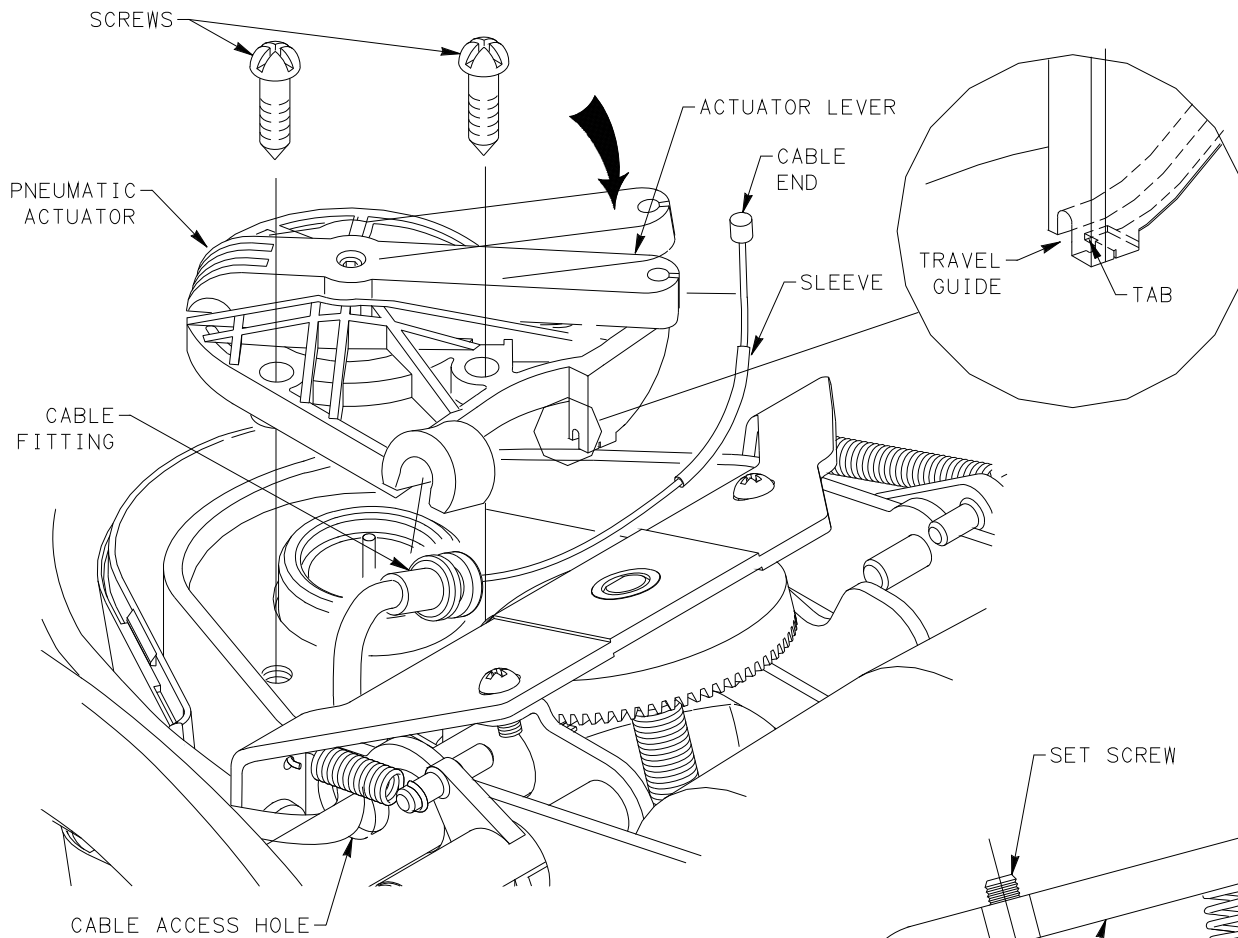

FIGURE 5
4. USING SCREWDRIVER, REMOVE AND SAVE (2) SCREWS SECURING PNEUMATIC ACTUATOR TO TILT. SEE FIGURE 5.
5. DEPRESS LEVER ON PNEUMATIC ACTUATOR AND DISENGAGE CABLE END FROM ACTUATOR LEVER. SEE FIGURE 5.
6. USING PLIERS, REMOVE CABLE FITTING FROM PNEUMATIC ACTUATOR. FEED CABLE END THROUGH CABLE ACCESS HOLE. REMOVE CABLE AND PNEUMATIC CONTROL AND DISPOSE OF PROPERLY. SEE FIGURE 5.
9. FEED CABLE THROUGH CABLE ACCESS HOLE IN RIGHT SIDE OF TILT AND SNAP CABLE FITTING INTO PNEUMATIC ACTUATOR. SEE FIGURE 5.
10. DEPRESS ACTUATOR LEVER AND WRAP CABLE, WITH SLEEVE, AROUND TRAVEL GUIDE. INSERT CABLE END INTO SLOT IN ACTUATOR LEVER WHILE POSITIONING SLEEVE INTO TRAVEL GUIDE. PRESS LOWER END OF SLEEVE SECURELY UNDER TAB ON TRAVEL GUIDE. RELEASE LEVER TO SECURE CABLE END TO LEVER. SEE FIGURE 5.